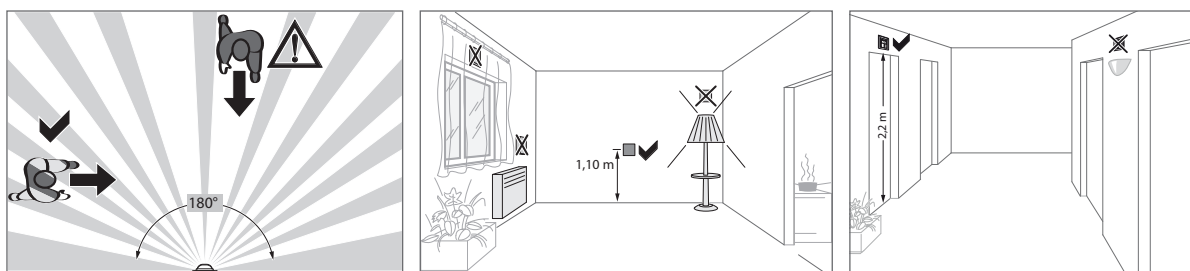

Fig 4: Installation location of the motion detectors
-  Observe the motion orientation: a distinction is made between direct approach and transverse motion. Motions transverse to the motion detector can be detected better than motions toward the motion detector (Fig. 4).
- Avoid sources of interference in the detection area. Sources of interference, e.g. heating elements, ventilation systems, air conditioners and lamps that are cooling down can cause undesired switching (Fig. 4).